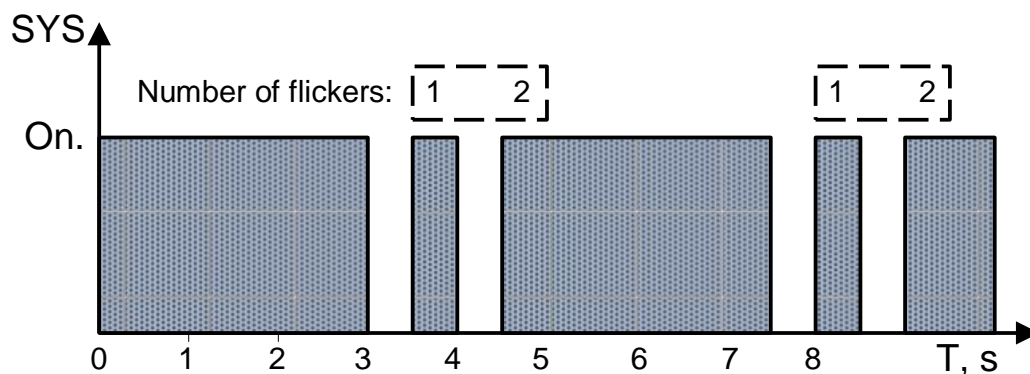

Fig. 6-1: Operation of SYS indicator (fault code 2)
In most cases, non-standard functioning of the device is followed by the relevant indication. For displaying information on non-standard situations or malfunctions, SYS indicator on the front panel is used. Indicator can illuminate continuously or flicker in accordance with the fault code (see Figure 6-1).
- flickering in accordance with the fault code (see Table 6-7, Fig. 6-1).